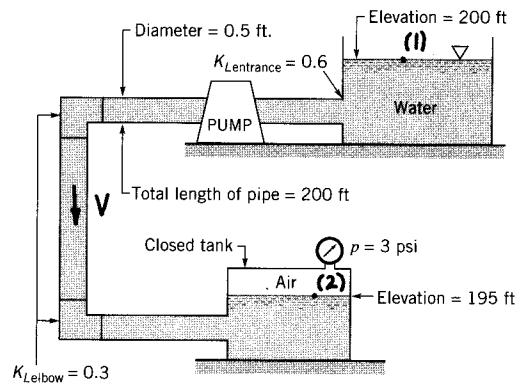

FIGURE P8.14R
8.14R (Single pipe with pump) The pump shown in Fig. P8.14R adds a 15-ft head to the water being pumped when the flowrate is  $1.5 \text{ ft}^3/\text{s}$ . Determine the friction factor for the pipe.